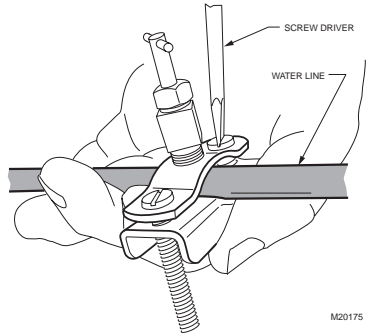

Fig. 8. Installing the saddle valve.
2. Use the self-piercing saddle valve (included) to tap into the water supply line at the location selected. See Fig. 8. If tapping into galvanized pipe, drain line and pre-drill 3/17 in. tap for saddle valve.